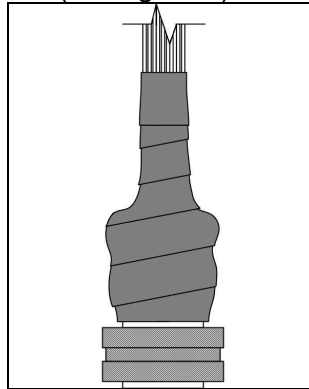

Figure 2
- 3.3.3** Continue to apply the StretchSeal™ Tape with a 50% overlap until the connector rear accessory is covered and at least one complete wrap of StretchSeal™ Tape has been installed on the harness bundle. (see figure 2)